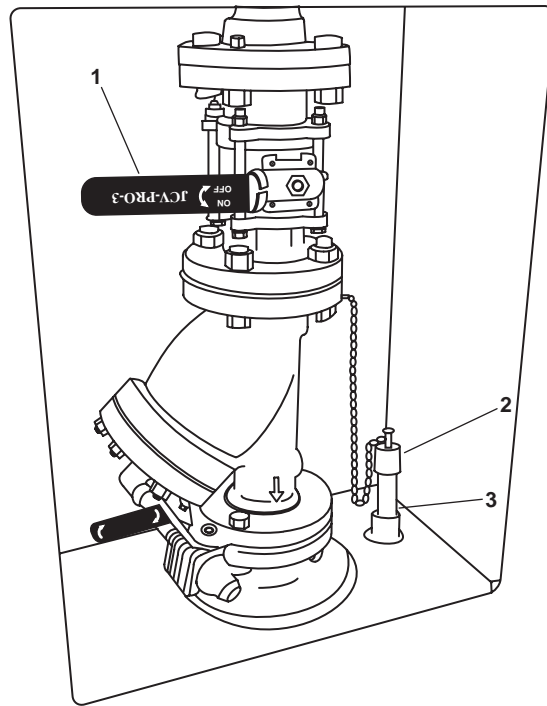
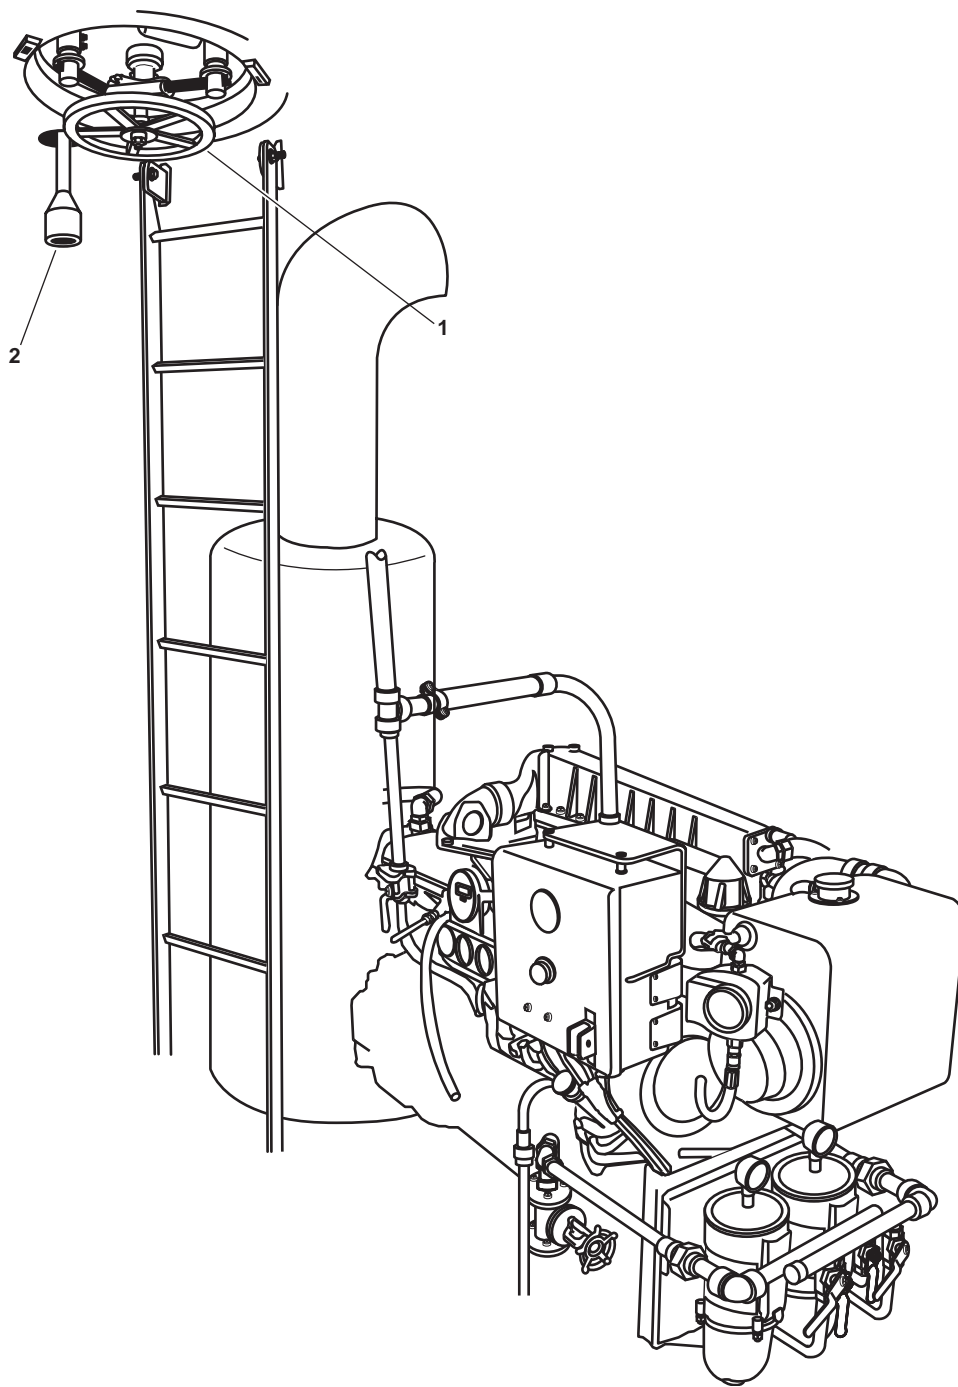

Figure 2. Engine Room Water Washdown Station
Figure 9. AMS 1 Emergency Escape Scuttle
5. OPEN WWS-1 (figure 2, item 1), located in the main deck vestibule, starboard side, to activate the Engine Room Water Washdown System (ERWWS).
- i. AMS 1 emergency escape scuttle (figure 9, item 1)
1. Wait at least 15 minutes after extinguishing the fire before performing this procedure. The natural decay rate for Hydrogen Fluoride (HF) gas is approximately 15 minutes after a fire is extinguished.
- a. Remove the cap (figure 2, item 2) from the aft HF sampling port (figure 2, item 3) located in the main deck vestibule or the forward HF sampling port (figure 9, item 2) located in the damage control locker.